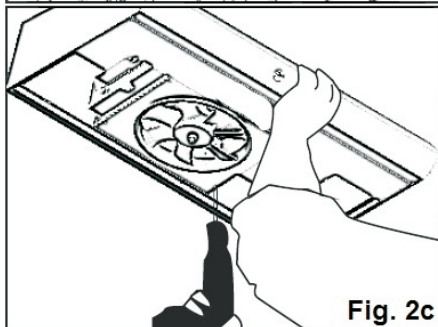

Fig. 2c
- g. Using the screws and washers provided, insert into each of the keyhole openings and tightly secure the unit against the cabinet. (Fig. 2c)